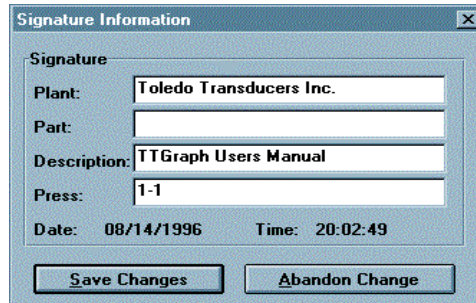

Figure 9: Signature Information window.
1. You may save a signature by choosing File in the menu bar and then choosing Save. You will then be able to input signature information. (See Fig. 9). The information will be displayed at the top of your screen.
3. View or change any useful signature information. (See Fig. 9).